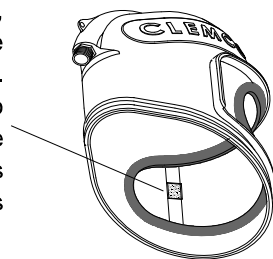

Figure 6
2.1.3.2 Place the transparent mounting strip on the inside of the inner lens, and into the same window gasket groove as the inner lens, as shown in Figure 6. Position it so it is within peripheral vision toward the side of the window opening.